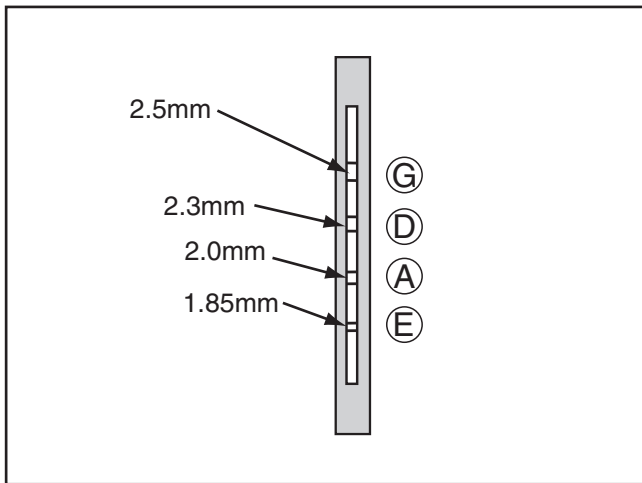

Figure 27. String slot example.
1. Use a narrow file to make slots in the bridge. Angle the slots toward the tailpiece. See **Figure 27** for an example of string spacing on the bridge.